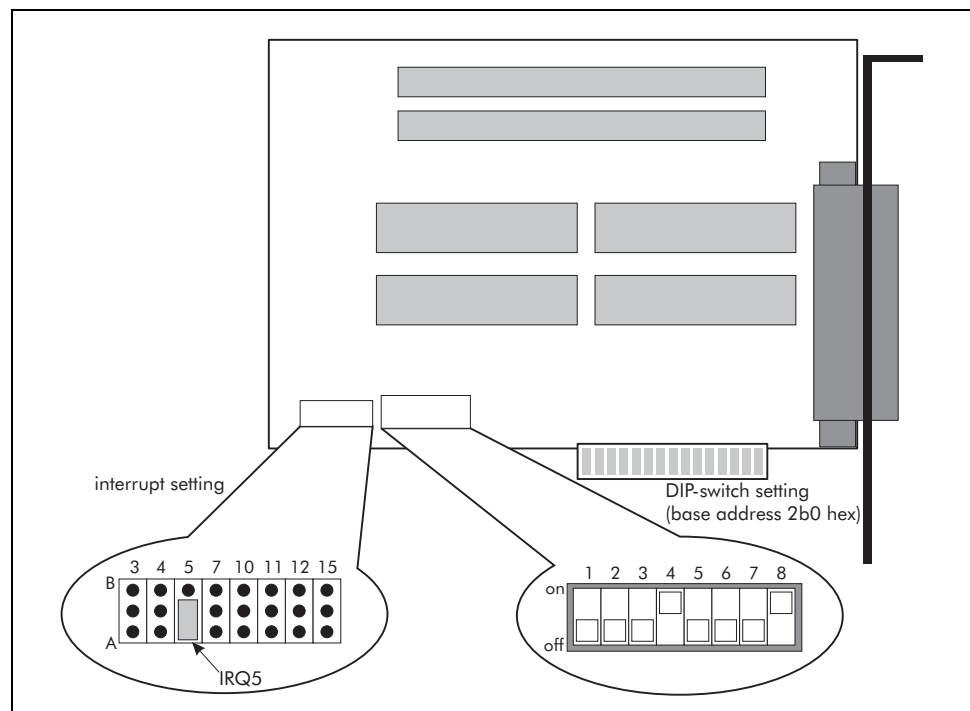
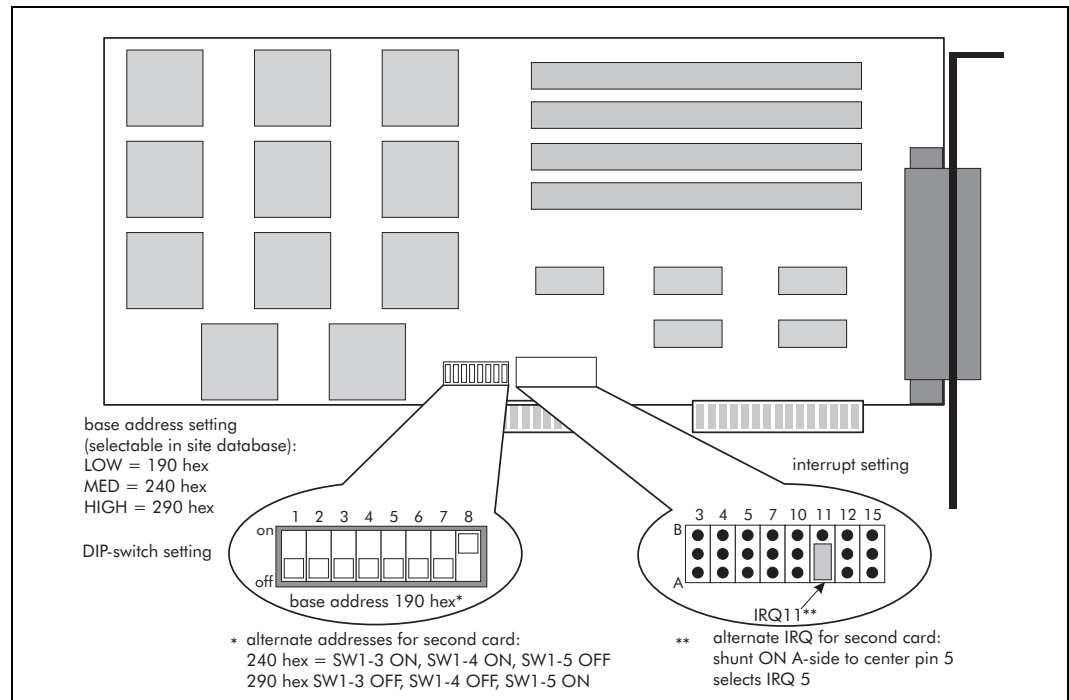

Figure 2-8 DFlex-4 Serial expansion card
Figure 2-9 DFlex-8 Serial expansion card
You can install the Connect Tech Inc. DFlex-4 or DFlex-8 serial adapter in any ISA slot in the computer. The DFlex-4 adapter adds four serial ports to Senstar 100 and the DFlex-8 adapter adds eight. You can install up to two DFlex cards in a Senstar 100 CU. *Figure 2-8* illustrates the DFlex-4 serial adapter. *Figure 2-9* illustrates the DFlex-8 serial adapter.
2. Set the jumpers and DIP switches as indicated in *Figure 2-8* and *Figure 2-9*.